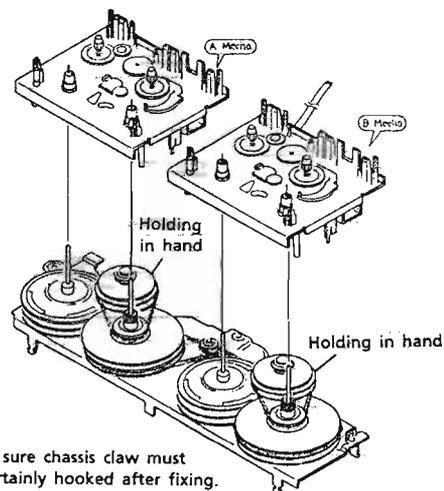

Fig. 3-14 Install the cassette mech. and bracket ass'y
2. Install the bracket ass'y on the cassette mech. (Fig.3-14)